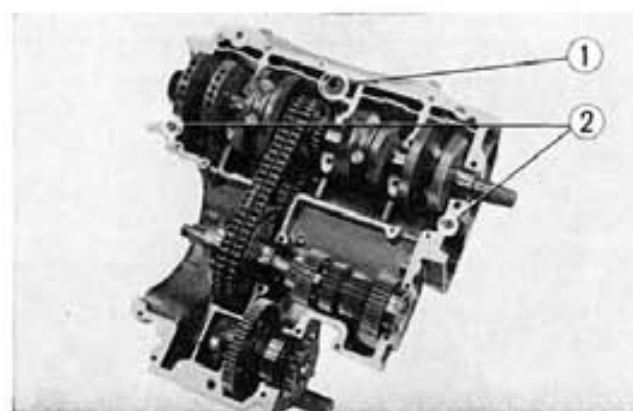
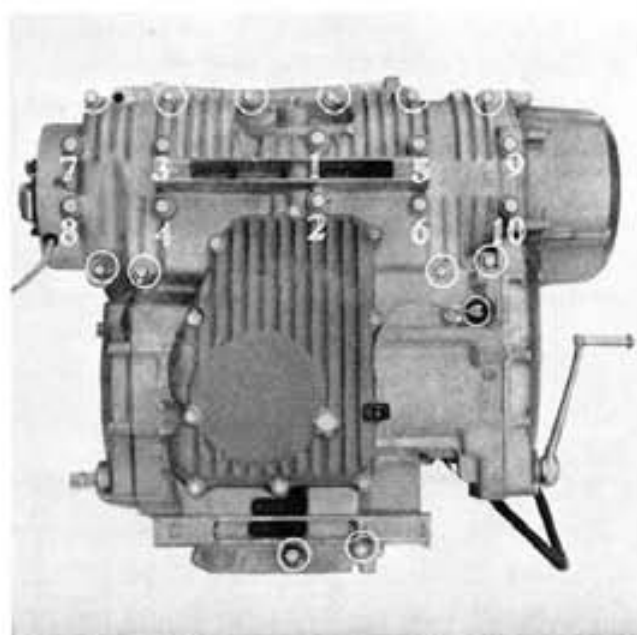

Fig. 3-85 ① Oil pass collar & "O" ring
Fig. 3-86 Tightening sequence
3. Install the two dowel pins, oil pass collar and an "O" ring on the upper crankcase and apply a uniform coating of liquid packing on the mating flange. (Fig. 3-85) Carefully set the lower crankcase on top, and install the mounting bolts and torque in the pattern shown in Fig. 3-86 to a value of 16.6~18.1 ft-lbs (2.3~2.5 kg-m) for 8 mm hex. bolts and next, tighten the 6 mm hex. bolts.